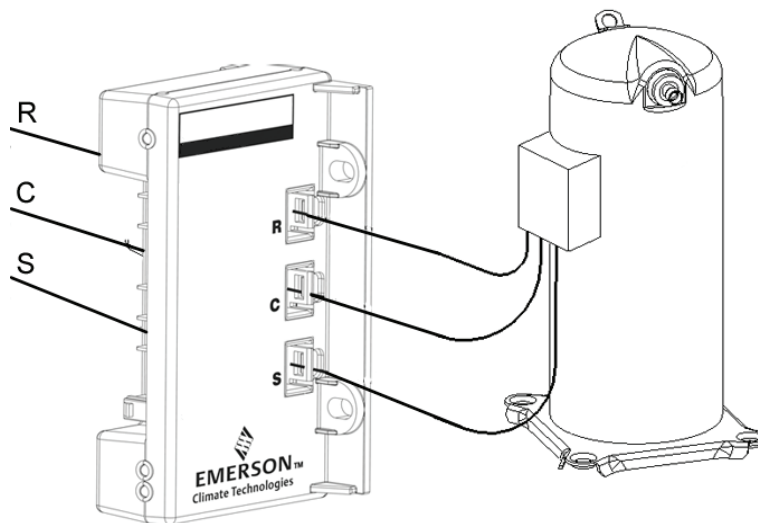

Figure 1
The compressor's run (R), common (C), and start (S) wires are routed through the holes in the CoreSense module marked "R", "C", and "S". See **Figure 1**.